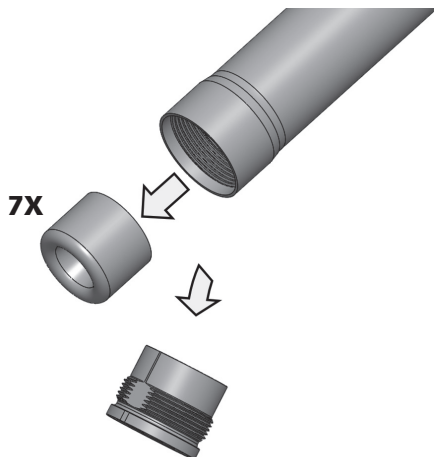

Fig. 4.1b
b. Remove the front end cap and shake out the (7) baffles (See fig. 4.1b)